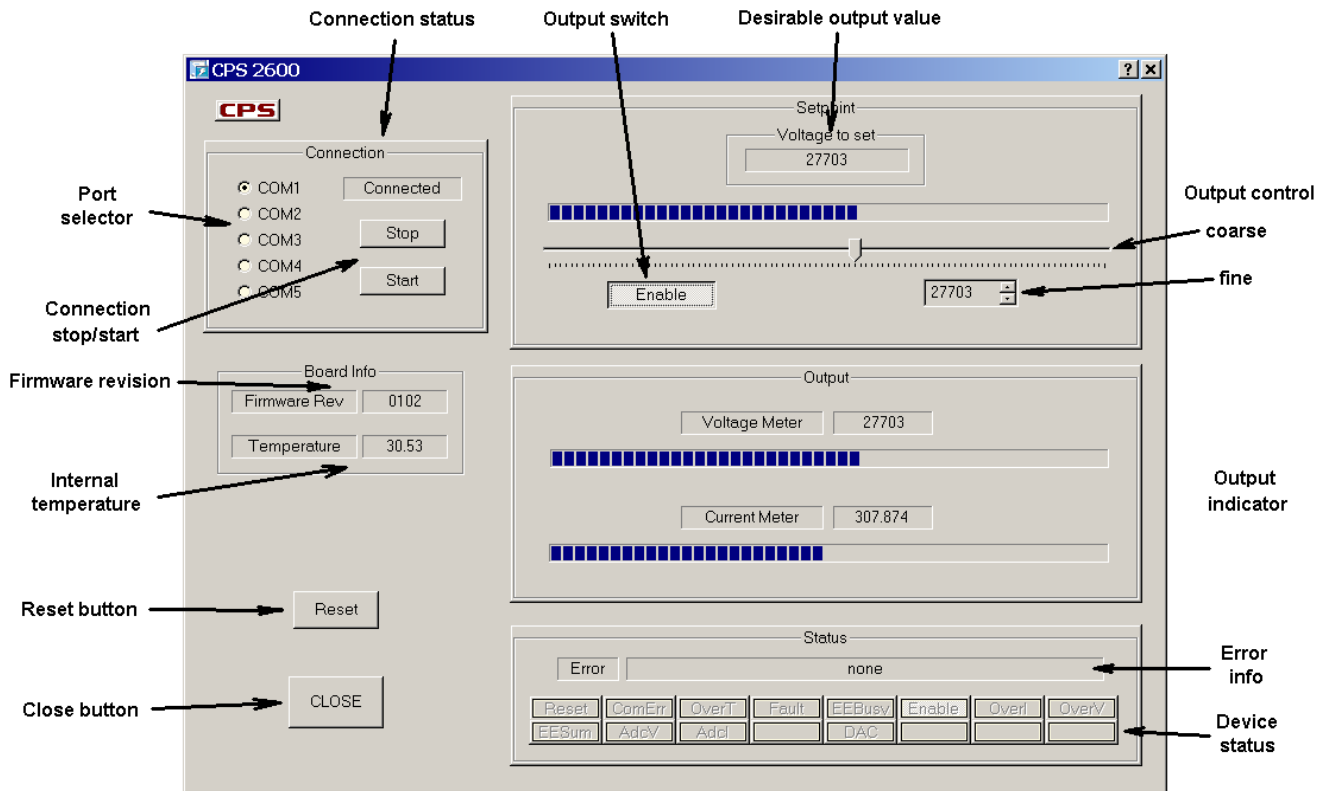

Figure 4. Demo program
- Run the demo program (2600demo.exe) on the control computer. When the program starts it will display a window as shown in Figure 4.